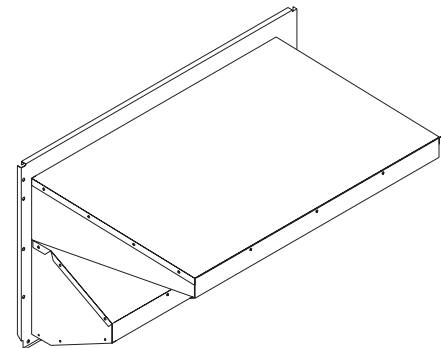

Fig. 35 — Completed Hood Assembly
5. Slide the outdoor air inlet screens into the screen track on the hood side panels. While holding the screens in place, fasten the screen retainer to the hood using the screws provided. Repeat the process for the barometric exhaust air screen. *Do not attach completed (Fig. 35) hood assembly to unit at this time.*